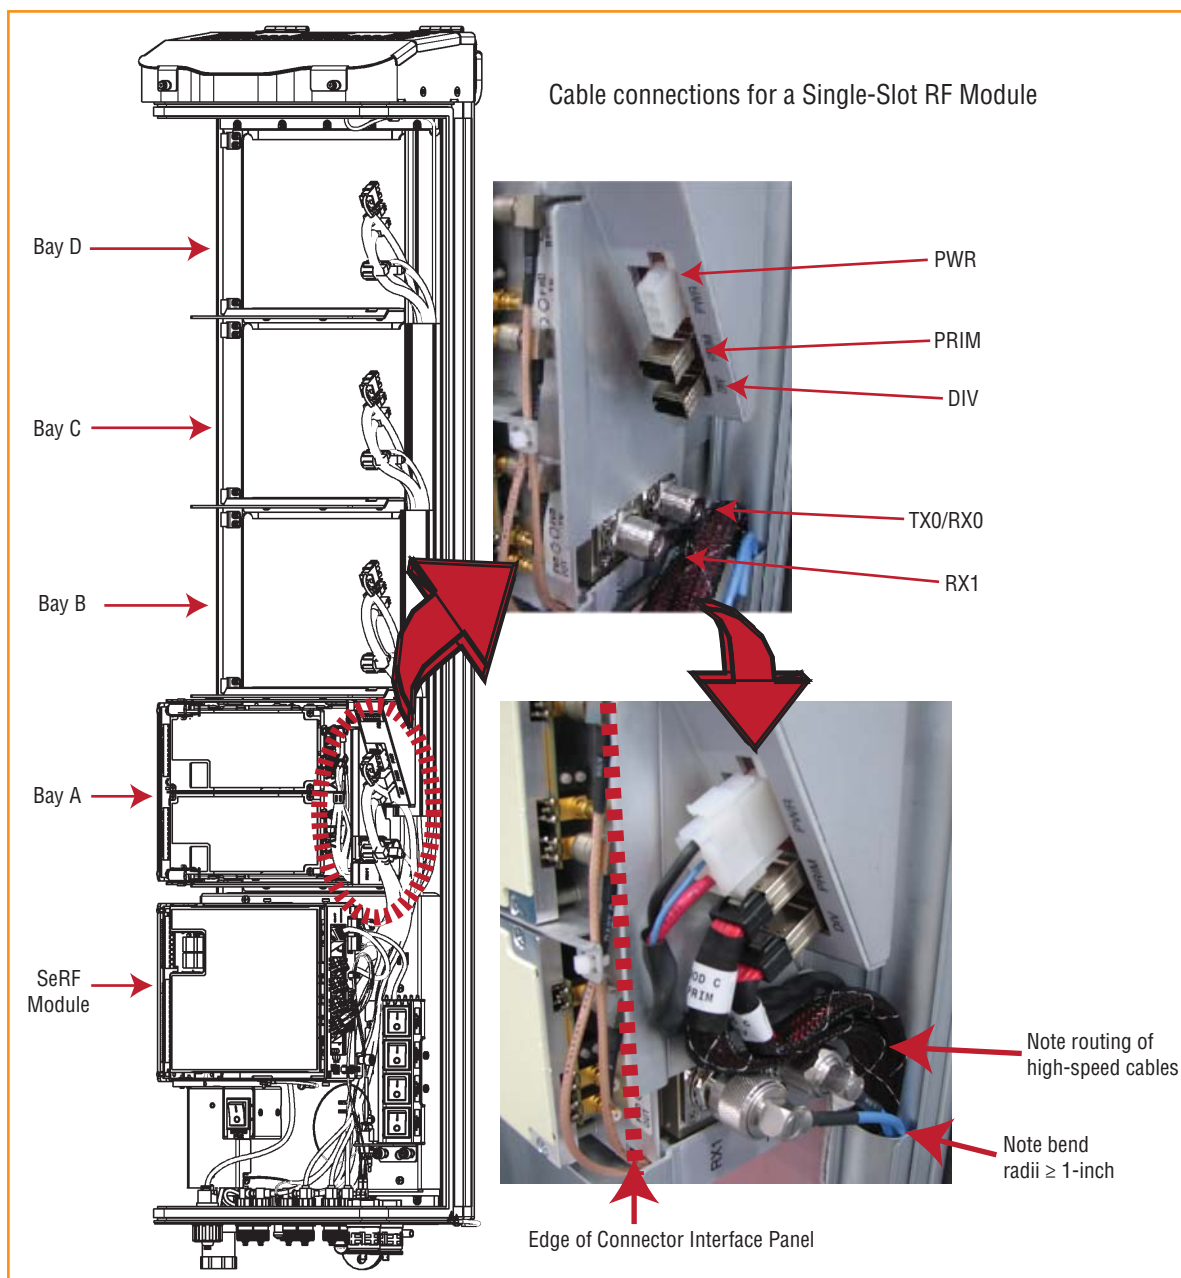

Figure 21. Cable Connections for Single-Bay RF Modules
- Single-Bay RF Module: Figure 21 on Page 34